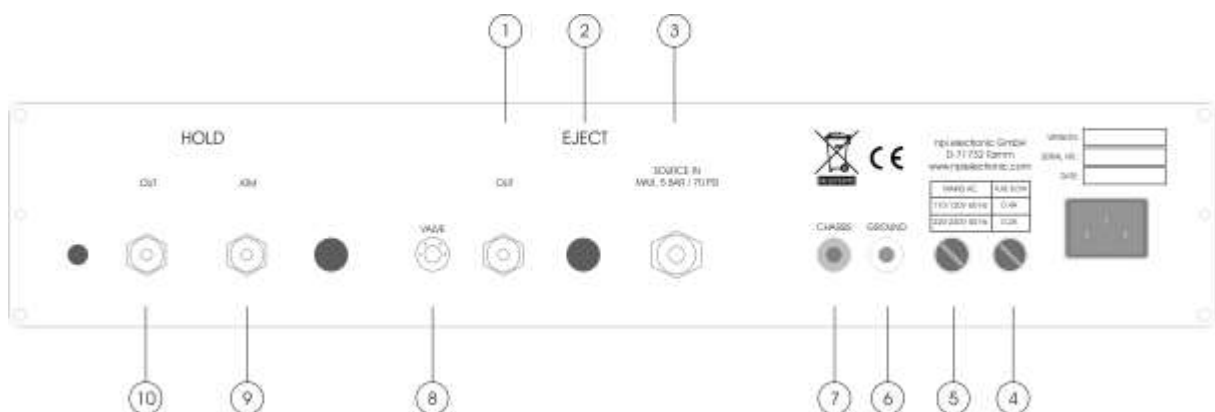

Figure 2: PDES-DXH rear panel view (the numbers are related to those in the text below)
- Connect the red tubing of the external valve (EJECT pressure) to the EJECT OUT connector at the rear panel #1, Figure 2.
- Connect the black tubing of the external valve (HOLD pressure) to the HOLD OUT connector at the rear panel #10, Figure 2.